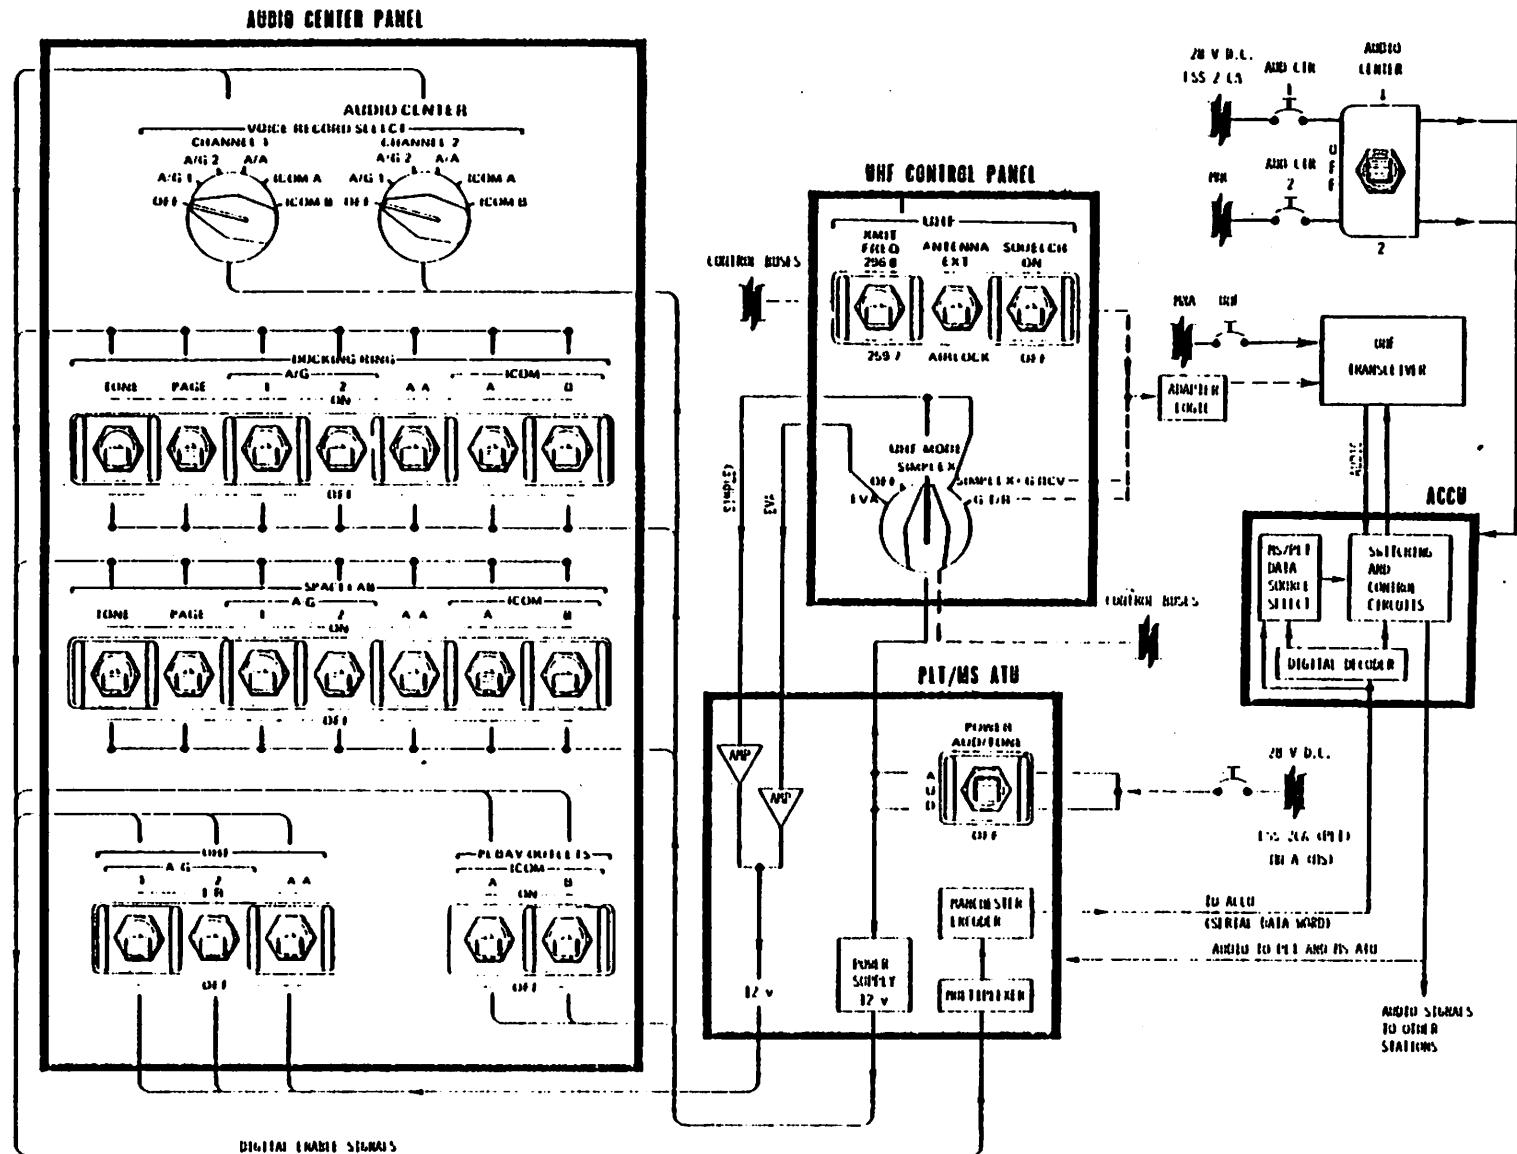

Figure 3-19.- UHF and Audio Center Circuitry.
- E. Figure 3-19 - UHF and AUDIO CENTER Circuitry